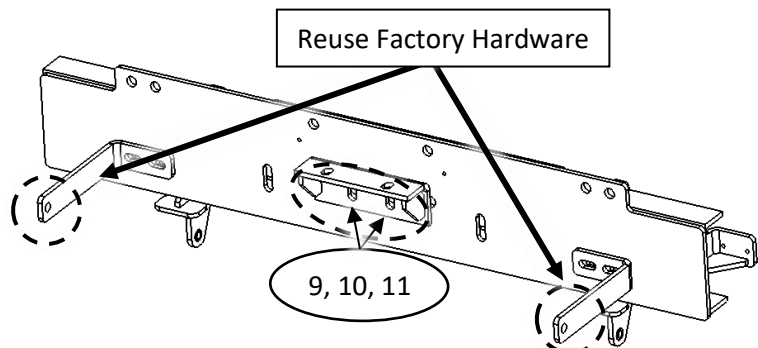

Figure 6 – Bracket Installation
3. Mount the bumper bracket onto the front of the truck as shown below in the Figure 6. Use the supplied hardware (Items 9, 10, 11) and factory hardware retained from behind the bumper in step 1 to attach the bracket.